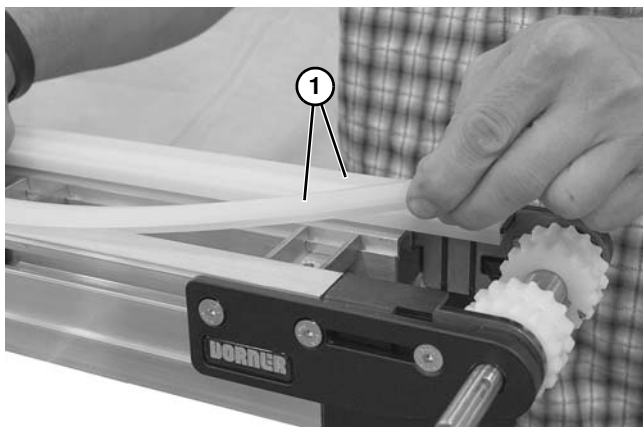

Figure 47
2. Remove upper wear strips (**Figure 47, item 1**) from end drive.